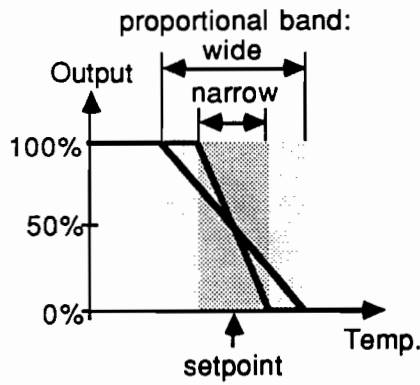

Figure C.1. Proportional band (with full PID control).
Proportional band (PB), or gain, amplifies the error between setpoint and measured value to establish an output level. Proportional band is the temperature range over which the output level is continuously adjustable in a linear fashion from 0% to 100%. Below the proportional band the output level is full ON (100%), above the proportional band, full OFF (0%) as shown in Figure C.1.